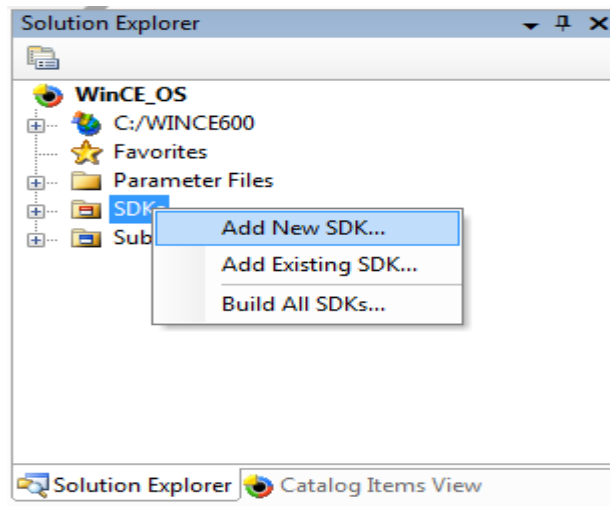

Figure 53. Solution Explorer Window
1. From VS2005 IDE, select Solution Explorer Tab=> SDKs Directory. Right click on it and select Add New SDK as shown in figure 53.